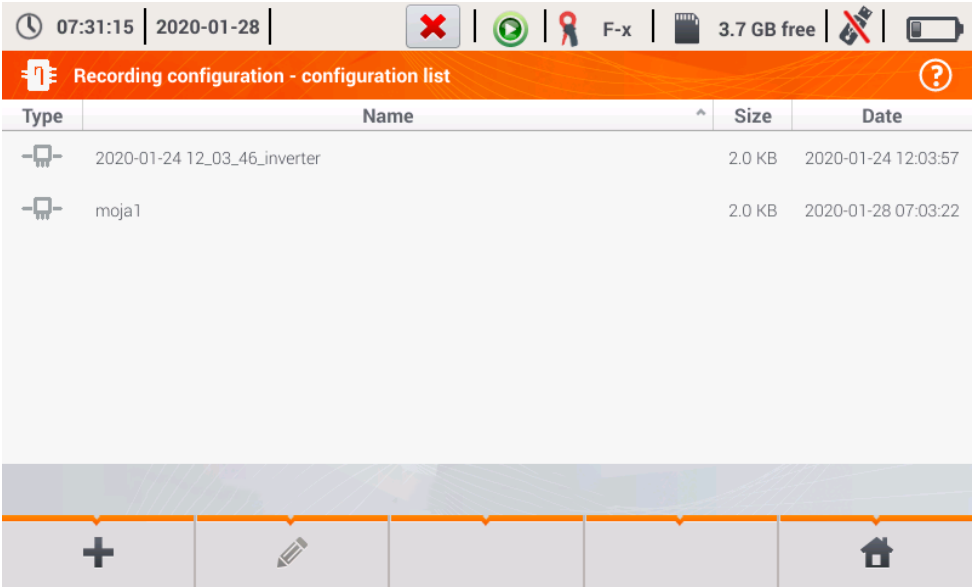
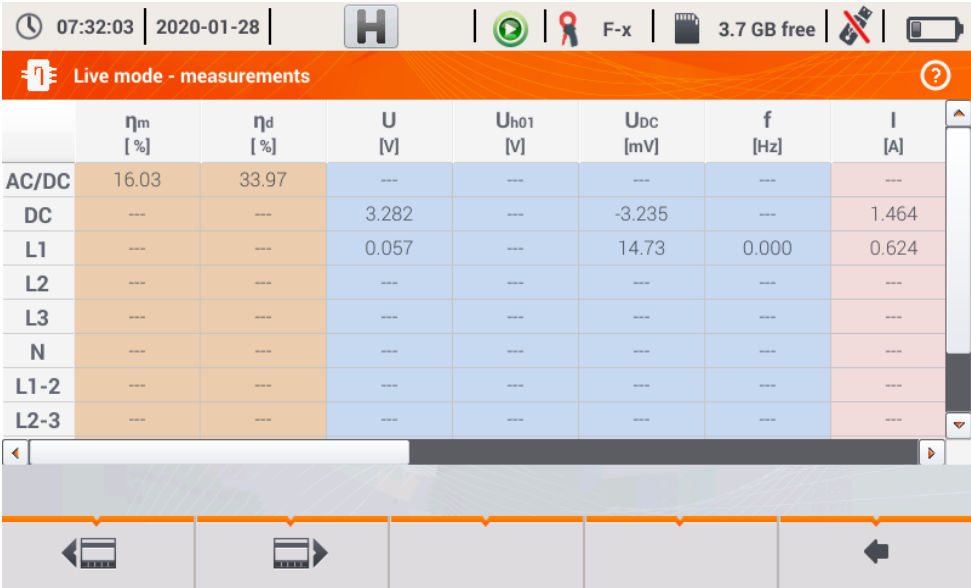

Fig. 3.11. Menu of recording configuration
Fig. 3.12. Live mode in tabular view for the inverter efficiency measurement mode
-  entering the list of saved configurations of inverter efficiency and creating a new configuration. Configurations are presented similarly to the measuring configurations, they have their own icon . Double-tap on a selected configuration will open it automatically and entering the screen with inverter efficiency settings (**Fig. 3.11**). The button in the menu bar  is used for adding new configurations starting of the inrush current (a window is displayed, as shown in **Fig. 3.12** with default settings). Icon  is used to edit the chosen configuration.